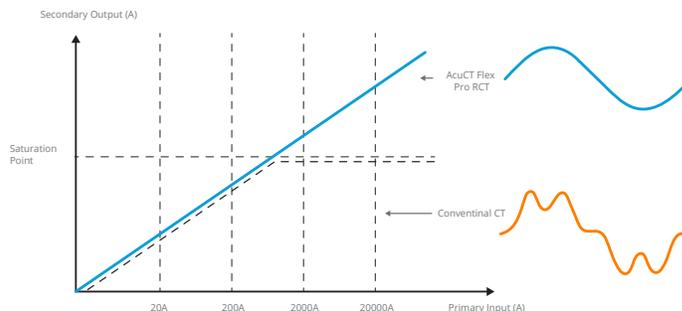

Figure 1 Performance Curve
The **AcuCT Flex Pro Series** Rogowski Coil is a low-power passive current sensor specifically engineered for protection relay systems and advanced monitoring applications. It comes with a RJ45 connector. Designed in accordance with IEC 61869-10, the sensor meets protection accuracy 5P50kA and withstand fault currents up to 50 kA, ensuring dependable performance under severe short-circuit conditions. With a rated transformation ratio of 500 A / 270 mV @ 60 Hz or 500 A / 225 mV @ 50 Hz, the sensor is optimized for direct integration with protection relays equipped with Rogowski or Low Power Current Transformer (LPCT) inputs. For example, at 120% of rated primary current ($500\text{ A} \times 1.2 = 600\text{ A}$), a protection-class iron magnetic core current transformer (e.g., 5P or 10P class) may begin approaching magnetic saturation depending on its accuracy class, rated burden (VA), and knee-point voltage which is illustrated in Figure 1.
As seen in Figure 1, the AcuCT Flex Pro with its air-core design, does not experience magnetic saturation and maintains linear output response beyond rated current, ensuring accurate measurement under overload and fault conditions.